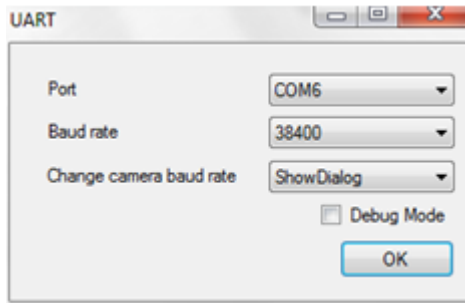

Figure 14
2. The following UART dialog window will open by selecting “Port Setting” under “Comm” in menu (Figure 14).